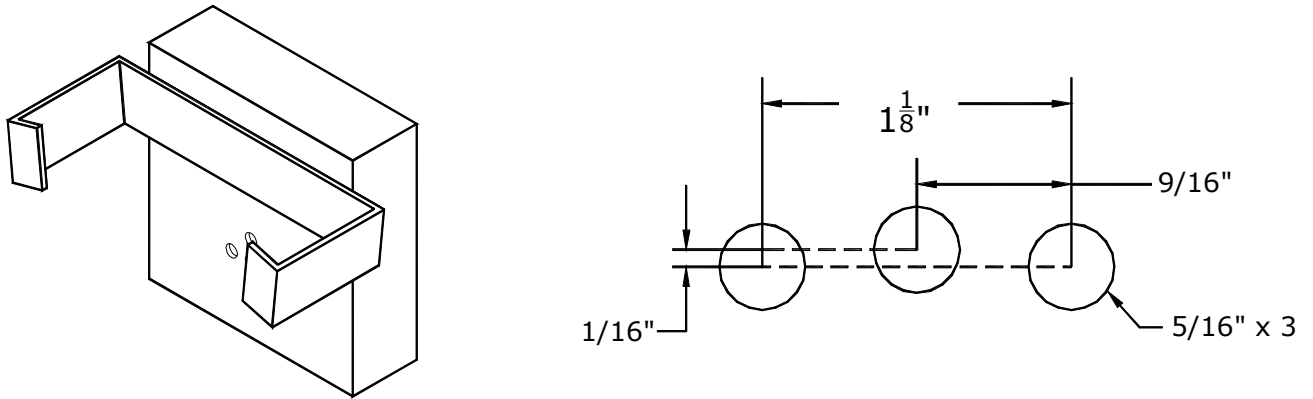

Figure 13 Remote/MIC Holders Mounting.
17. Locate a mounting area for the Remote/MIC holder within or near the shower area. Holder **MUST** be within the shower area since components within the holder regulate the temperature. The holder should be mounted at eye level of the tallest person using the Ambiance unit, and away from the steam head so that a false temperature reading is not given. Drill three holes in the wall where the Remote Holder is to be mounted (see **Figure 13** for drilling dimensions). Run cables labeled "TEMP SENSOR" and "PHONE MIC" hanging from the remote holder to the Command Module location. You will need to supply 18 AWG wire to extend the Temp Sensor wires through the 5/16" hole just drilled to the labeled wires coming out of the Command Module. You will also need to supply a 3.5mm microphone cable extension(s) to the Command Module if you have purchased the phone option or intend to. Place wall anchors in the two 5/16" holes. Place screws into anchors and tighten down leaving enough room to slide remote holder key slots over the screws to hold it in place. Place a generous amount of water proof/water based